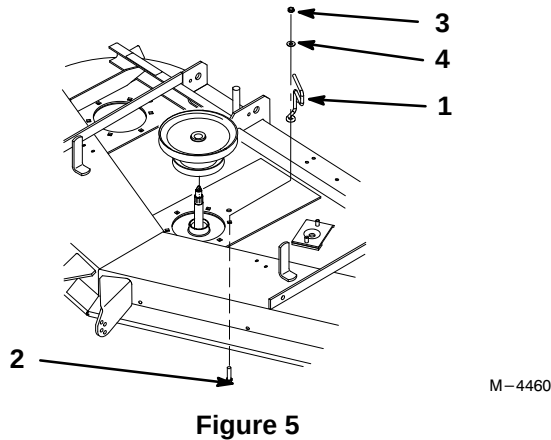

Figure 5
1. Remove existing belt guide, carriage bolt, washer, nut and discard (Fig. 5).